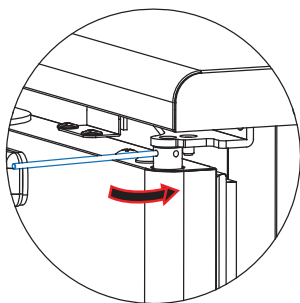

Fig 9-32
4. Take the steel stick and slowly loosen it toward the direction of the arrow. If tension is completely released before the stick touches the body, remove the stick from the shaft and go to the next step. (Fig 9-32)